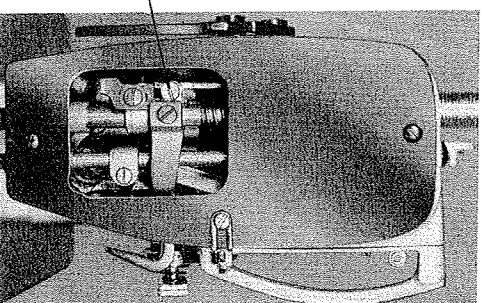

Fig. 13-2
- 2) Remove cover (A) from the face plate, Loosen screw (B) (Fig. 13-2) and adjust the height of the presser bar.
- 3) After adjustment tighten screw (B) and replace cover (A).